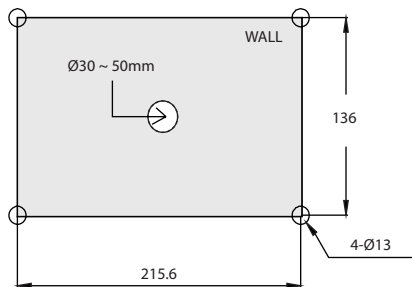

FIG. 1
1. When you install IR PTZ Camera on the wall, make 4 holes at the edge with Ø13 in diameter and 37mm in depth and install 4 pieces of Anchor bolt in the Ø13 holes at the edge. (FIG. 1)